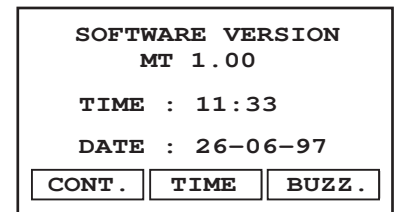

Fig.35. Set up menu
1. Press the SET UP key, see set up menu, fig.35.
1. Press the SET UP key, see configuration menu fig.35.